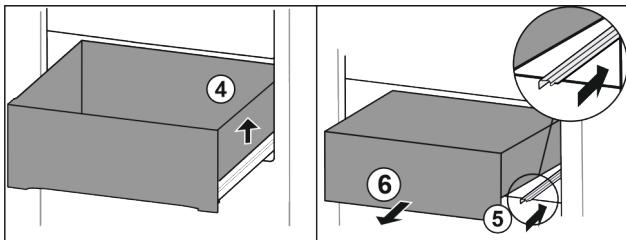

Fig. 90
- ▶ Lift drawer on the right. Fig. 90 (4)
- ▶ Insert right rail. Fig. 90 (5)
- ▶ Remove drawer to the front. Fig. 90 (6)